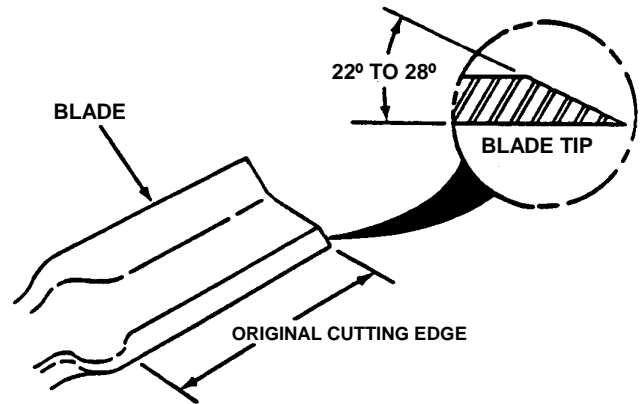

FIGURE 5.7
3. If blade is in good condition, sharpen at 22 to 28 degrees. DO NOT sharpen beyond existing cutting edge. See Figure 5.7.